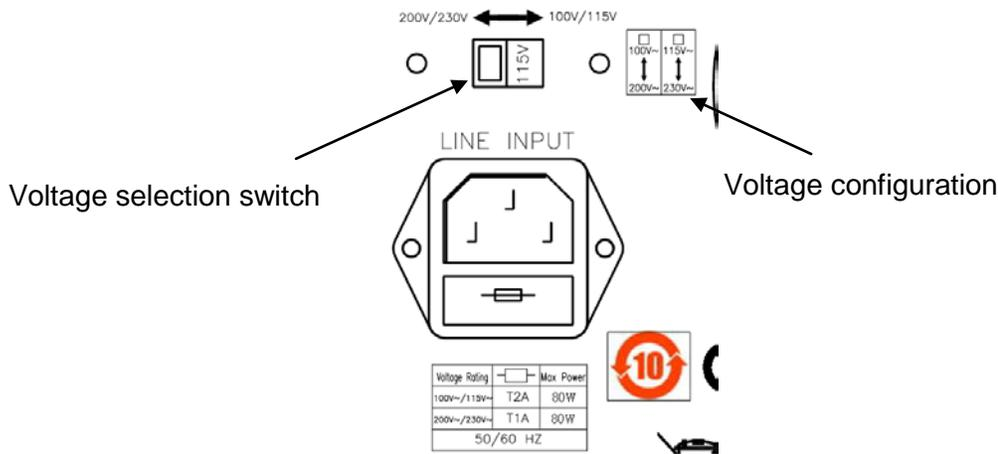

Fig 2-1 33431G LINE INPUT AND VOLTAGE SELECT SWITCH
2.2.2 Refer the drawing on the rear panel of 33431G high power load in Fig 2-1, set the switches to the proper voltage as describe in the following: